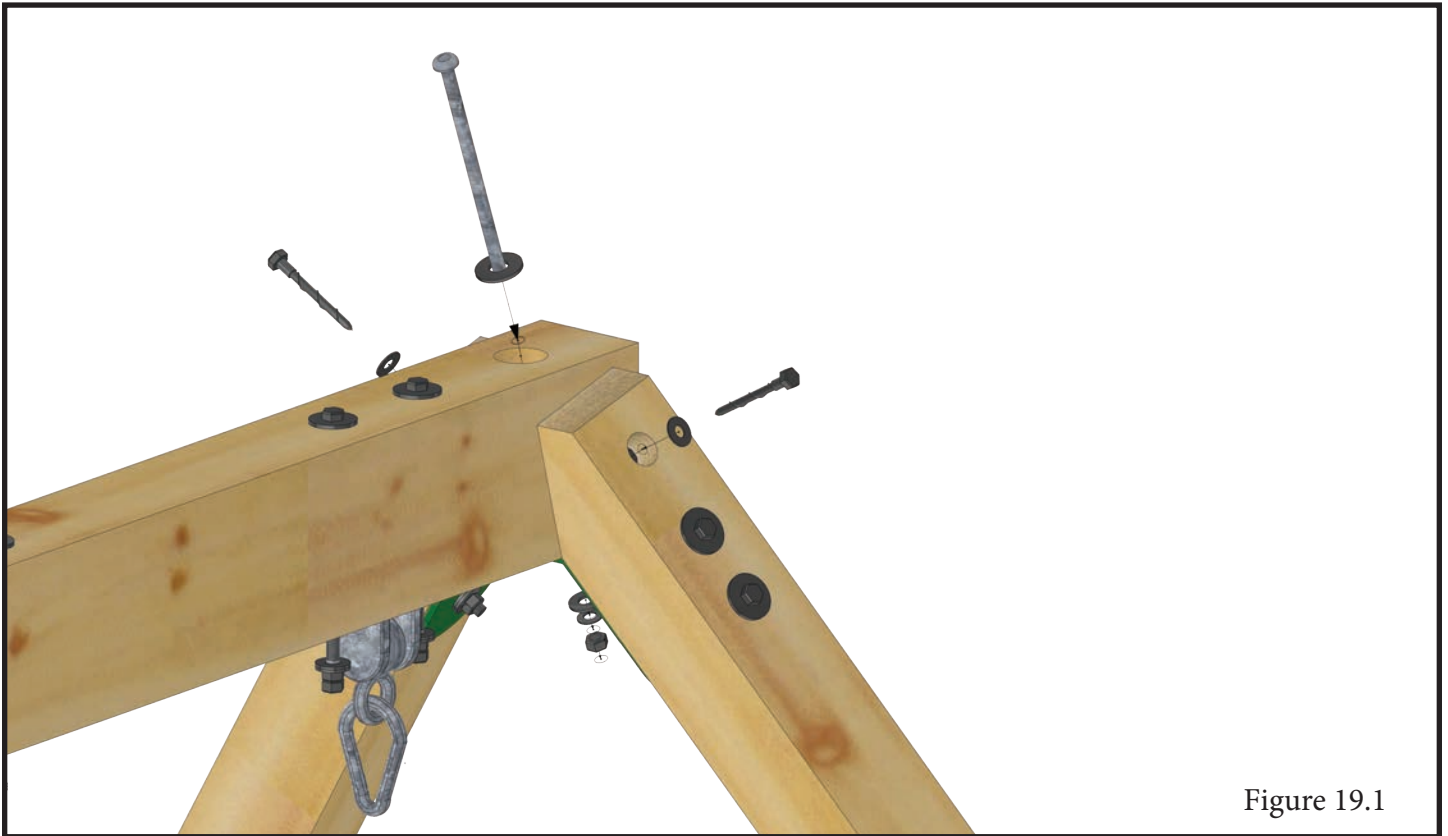

Figure 19.1
19.3 Fasten the top of the Swing Legs into the Swing Beam with 5/16" x 3" Lag Bolts with 5/16" washer as shown in Figure 19.1